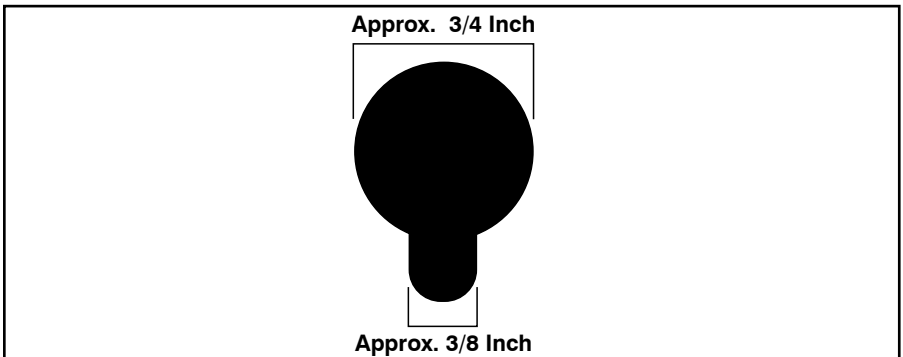

Figure 3: Mounting Button Hole Specs
3. Refer to Figure 3 below to make certain that the equipment rack includes appropriate mounting button holes and then attach the NBB unit to the rack by inserting the Mounting Buttons into the Mounting Button holes. When the NBB is in place, slide the unit downward to securely seat each Mounting Button in its corresponding hole.